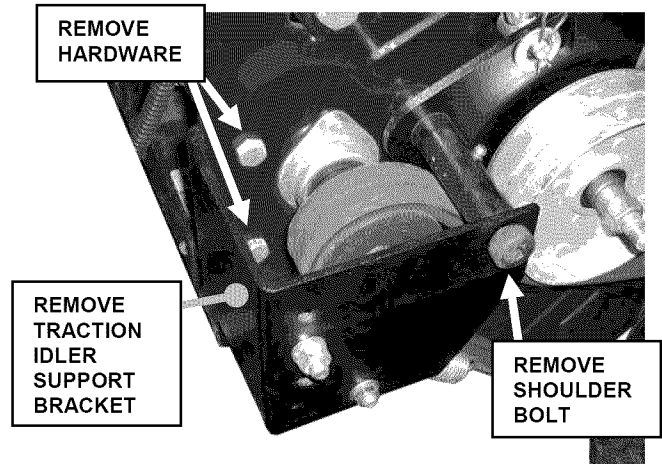

FIGURE 6.13
3. Remove Shoulder Bolt from traction idler assembly. See Figure 6.13.
4. Remove hardware securing Traction Idler Support Bracket to unit. Remove bracket. See Figure 6.13.